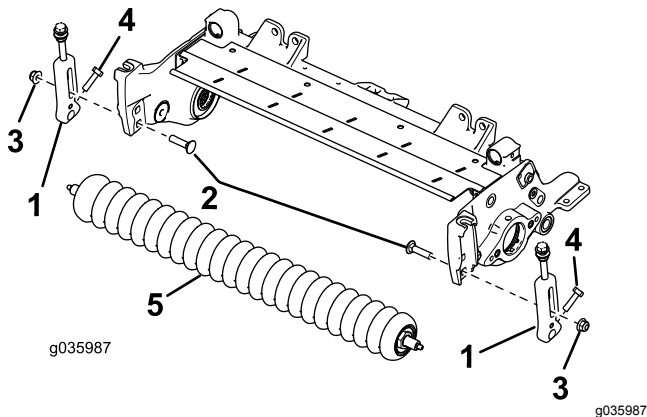

Figure 2
2. Remove the carriage bolts and locknuts securing the height-of-cut (HOC) brackets to the cutting-unit side plates (Figure 2).
3. Loosen the screws securing the height-of-cut brackets to the front-roller shaft (Figure 2).
4. Remove the existing height-of-cut brackets and the front roller from the cutting-unit side plates (Figure 2).